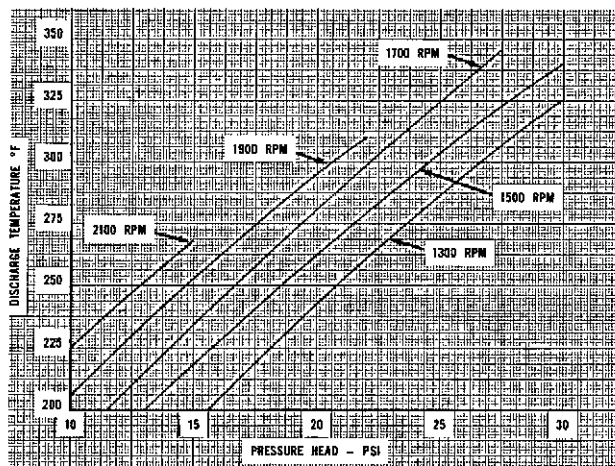

Fig. 2-14, N11840. Air discharge temperature - NH-250 Engine
d. Check discharge temperature to be certain it is within an acceptable range. Fig. 2-14 (NH-250) shows temperature values for various pressures and engine speeds. If values obtained are excessive, fuel inlet valve is not properly seated and is allowing some fuel to be burned.